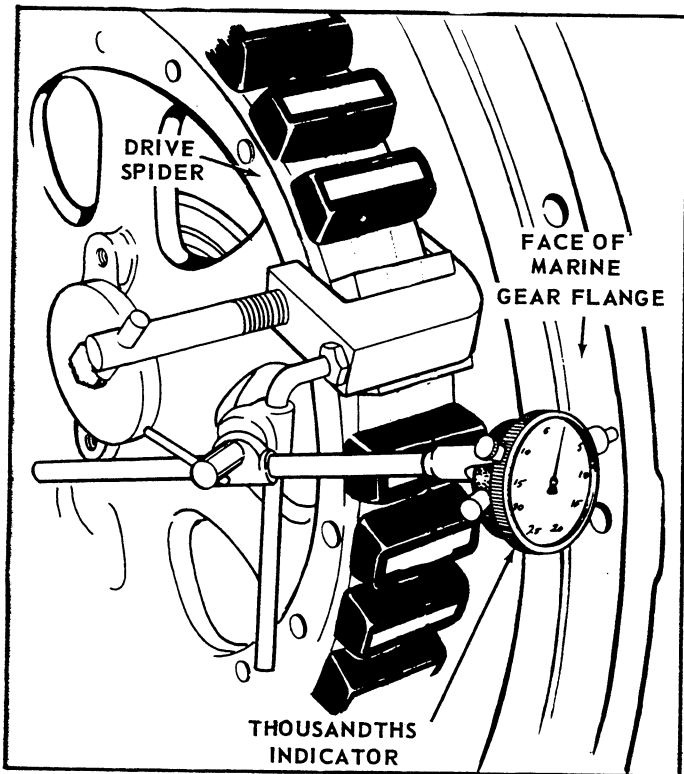

Figure 63. Checking the Face of the Front Housing Flange for Runout.
B. Checking the Marine Gear Flange. Bolt a thousandths indicator or gauge to the drive spider of the marine gear so that the indicator is perpendicular to the face of the marine gear housing, and the indicator stem is riding on the face of the flange (Fig. 63). Rotate the drive spider and note the face runout of the marine gear flange. The face runout must not exceed .017 inch maximum total indicator reading for the SAE No. 0 flange, or a .013 inch maximum total indicator reading for the SAE No. 1 flange.